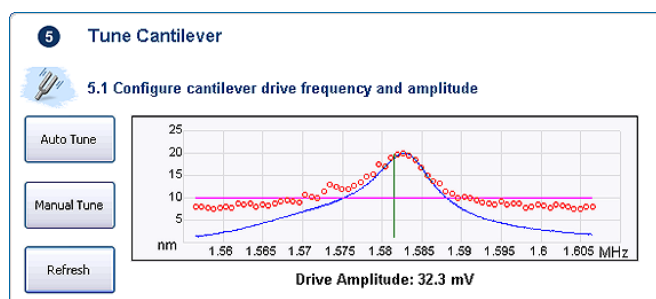

Figure 5 Tune Cantilever Panel
2. Otherwise, or If Autotune fails, click the **Manual Tune** button to open the **Cantilever Tune** window. (Figure 5)